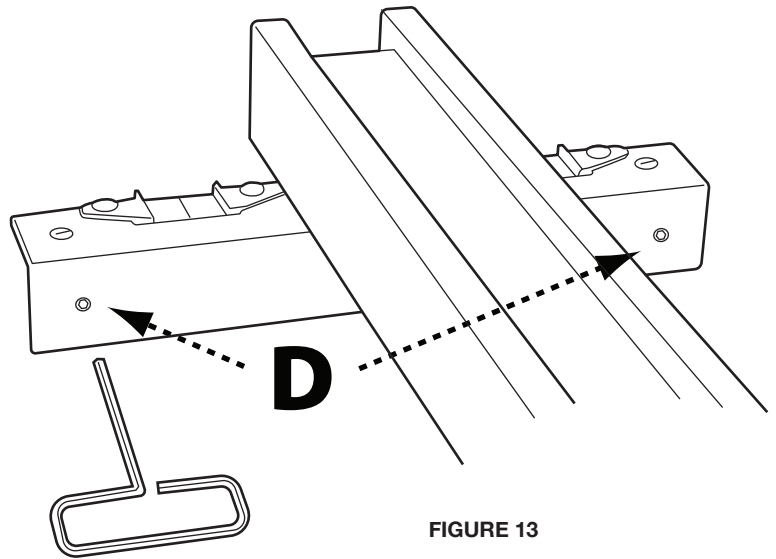

FIGURE 13
2. Slightly tighten or loosen one of the two set screws (D) (Figure 13), using a 3mm hex wrench (not supplied).
2. Locate the two adjusting screws (D), shown in Figure 13.